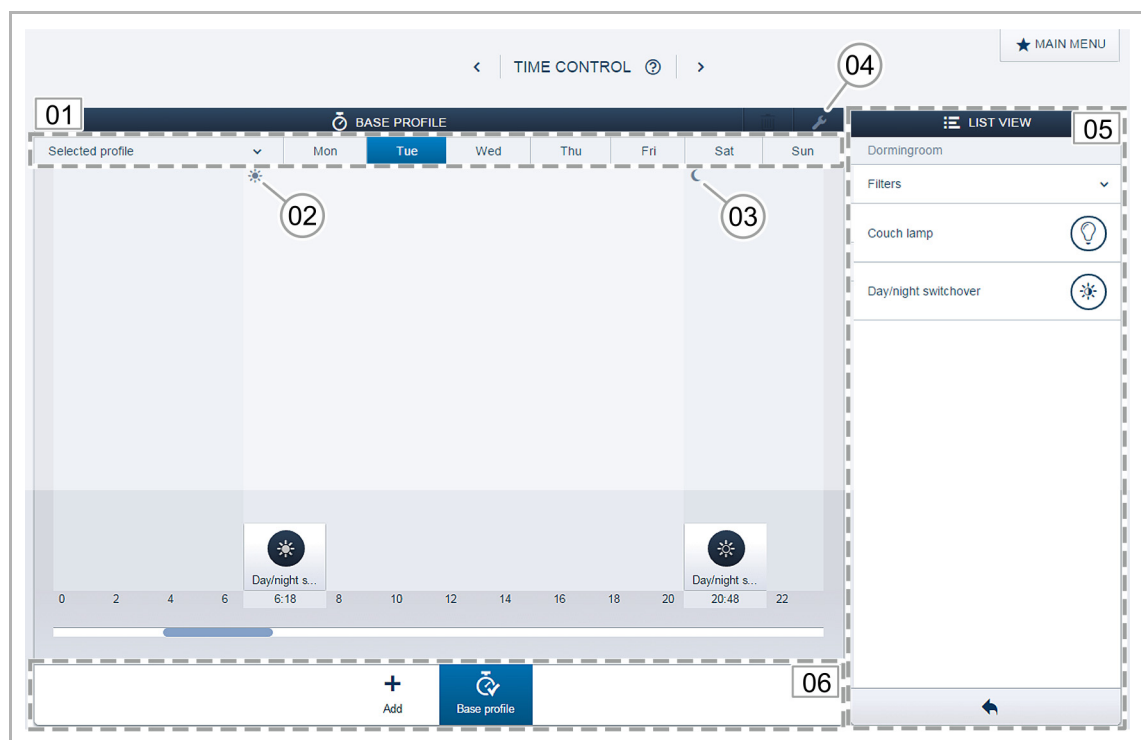

Fig. 34: Time profiles
- To define the switching times for a device or a scene, pull it onto the timeline via drag and drop (see Fig. 34).